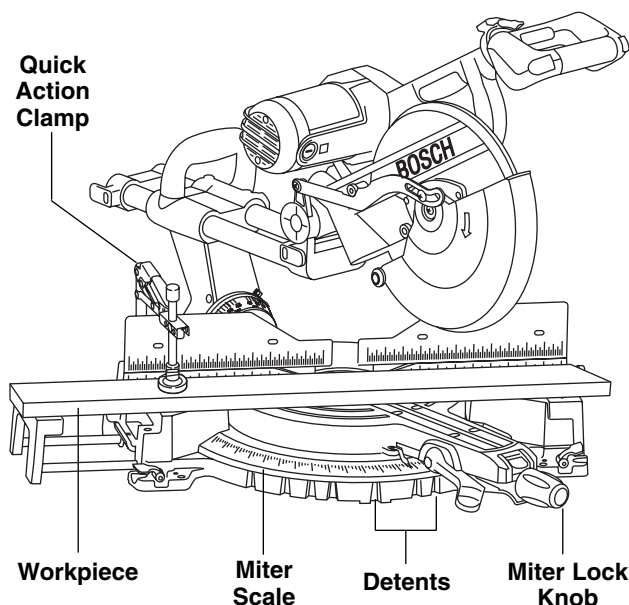

Figure 28. Miter Cut
1. Loosen miter lock knob. Lift miter detent lever and move the saw to the desired angle, using either the detents or the miter scale. Tighten miter lock knob (Figure 28).